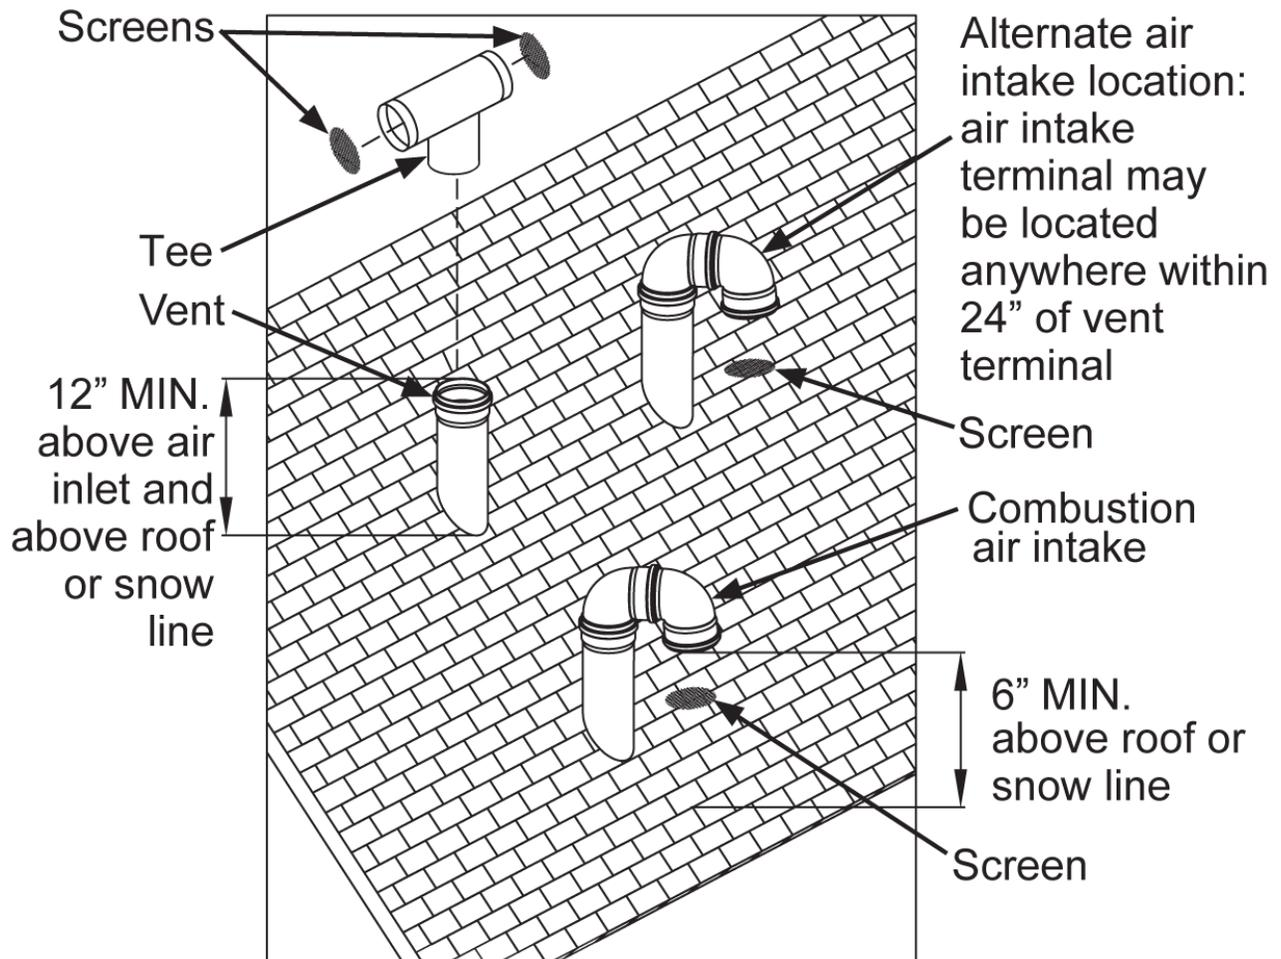

Figure 6-11: Vertical Vent Termination
5. Space the air and vent holes to provide the minimum spacing shown in Figure 6-11 and listed in Section 6.5.16.
1. Prepare the vent termination and the air termination elbow (Figure 6-11) by inserting bird screens.
2. The air piping must terminate in a down-turned 180° return bend as shown in Figure 6-11. Locate the air inlet pipe no further than 2 feet from the center of the vent pipe. This placement avoids recirculation of flue products into the combustion air stream.
3. Maintain the required dimensions of the finished termination piping as shown in Figure 6-11.
4. Do not extend exposed vent pipe outside of building more than shown in Figure 6-11. Condensate could freeze and block vent pipe.